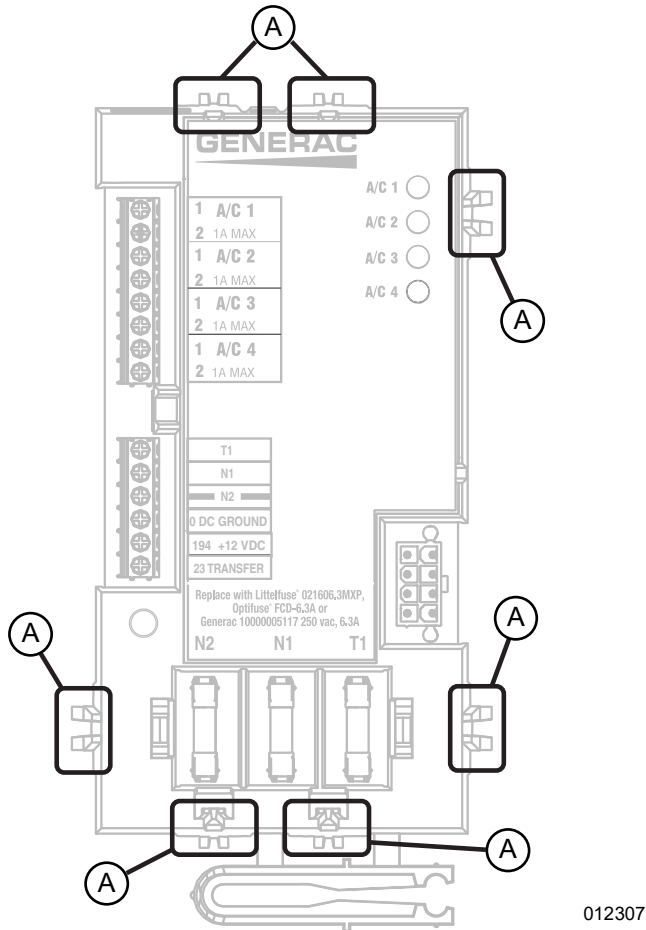

Figure 2. Remove SACM Board From Enclosure
1. See Figure 2. Disconnect all wires from existing SACM board.
2. Squeeze inward (toward the board) on the 7 snap fasteners (A) located on the perimeter of the board to release board from the ATS enclosure.